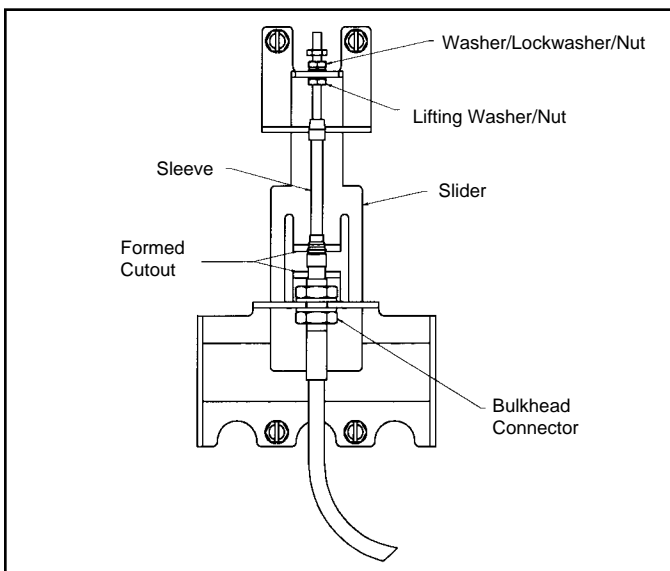

Figure 1-3 K-Frame Actuator Mechanism
In the event a customer must disassemble the preassembled Flex Shaft handle mechanism, the following procedure must be followed before continuing with the installation instructions. (See Figure 1-3).
8. Check operation of mechanism for ON, OFF, and reset. Check the reset position of the actuator mechanism, that the lifting nut and sleeve of shaft do not come in contact with each other (see Figure 1-3). If they do, move bulkhead connectors accordingly. If mechanism functions incorrectly, repeat procedure or go to Adjustment Checklist.
Loosen the lifting washer/nut while tightening the washer/lockwasher/nut, two or three turns should be sufficient (see Figure 1-3).
Check the reset position of the actuator mechanism, that the lifting nut and sleeve of shaft do not come into contact with each other (Figure 1-3). If they do, move bulkhead connectors accordingly.
For a K-Flexible Shaft Assembly, loosen the washer/ lockwasher/nut on the end of the shaft while tightening the lifting washer/nut until breaker turns ON with positive action. Tighten both nuts and recheck for ON, OFF, and Reset positions (Figure 1-3).
Be certain after adjustment to have a minimum of 1 thread past the washer/lockwasher/nut assembly (Figure 1-3).